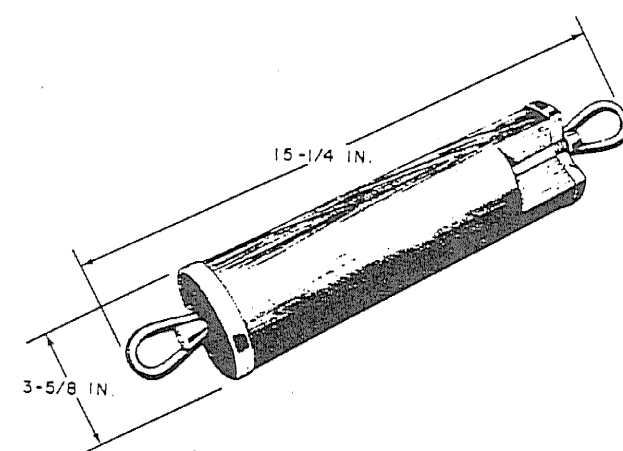

Fig. 9—D Conduit Mandrel
8.01 After backfilling, but before any required repaving begins, pull a D conduit mandrel (Fig. 9) through selected ducts. The mandrel will pass a curve of 15-foot radius. The conduit structure should be mandreled as follows: